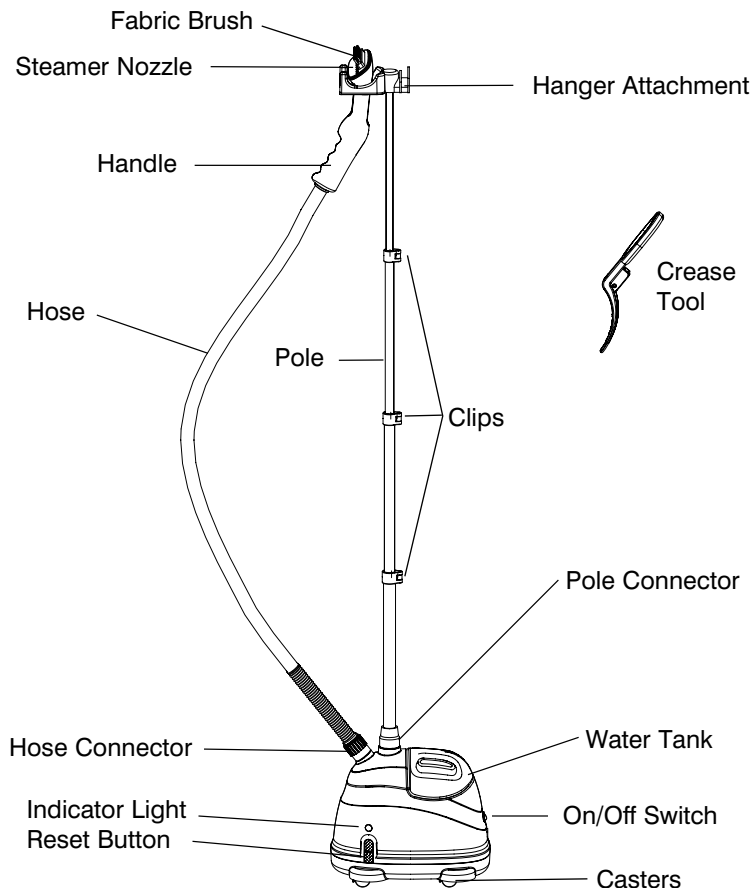

Figure 10
1. Carefully remove all contents from packaging and inspect the product to make sure all components have been received (Fig. 10).
5. This unit has a reset button (Fig. 10). When the unit runs out of water it will automatically shut-off to ensure safe use and the red indicator light will come on above the reset button. If you wish to continue your steaming session: